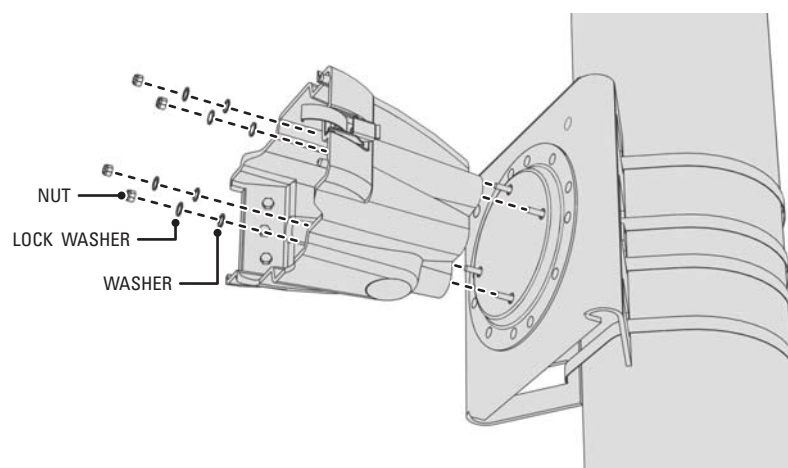

Figure 15. Installing the J-Box (*EWM shown*)
4. Secure the J-box to the mount (refer to Figure 15).
NOTE: The nuts, washers, and lock washers shown in Figure 15 are for illustration only. They are not supplied with the EW5301T. Use the actual hardware from the mount to secure the J-box to the mount.